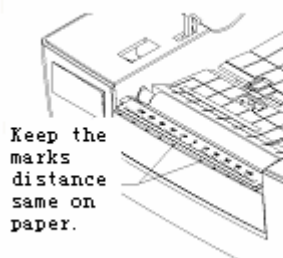

Figure 2.4.4
- The front end of paper roll should be in the middle of the platen as possible as it can. This could be positioned with the mark of peel-off plate (see figure 2.4.4) .